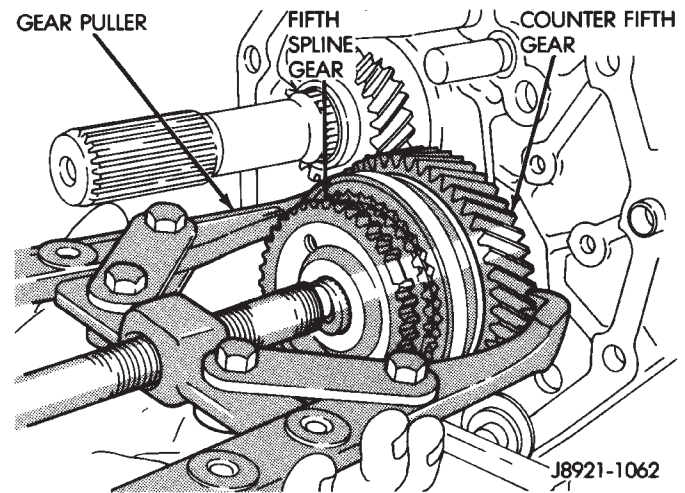

Fig. 22 Removing Fifth Gear Assembly
(4) Remove fifth spline gear, synchronizer and counter fifth gear with 2-, or 3-jaw puller (Fig. 22).